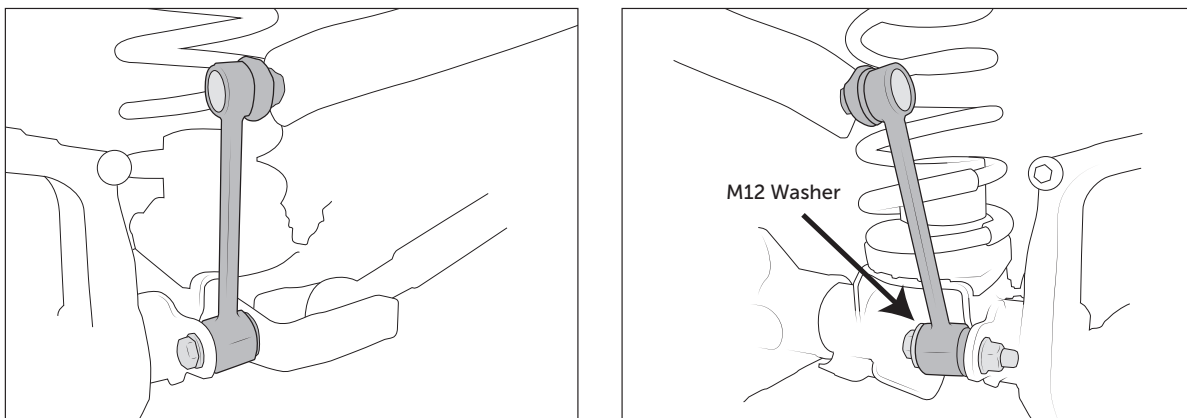

Figure 24
- A. For each side attach the upper end stud to the sway bar in the same manner as the original front links had been (nut on frame side of bar). NOTE: The upper stud has a different thread than the rest of the M12 fasteners in the suspension—it is a "standard" pitch versus a "fine pitch." Tighten to 40 lb-ft. (Fig. 24).
- B. The lower ends of the links will attach in the factory location using the original hardware. NOTE: Early models did not include a bolt with integrated washer on the driver side from the factory. If not equipped with the large washer, use AEV provided washer added to the inboard side of driver side link only (Fig 24). Washer is not needed on passenger side because it has brackets on both sides of bushing. Torque to 40 lb-ft.